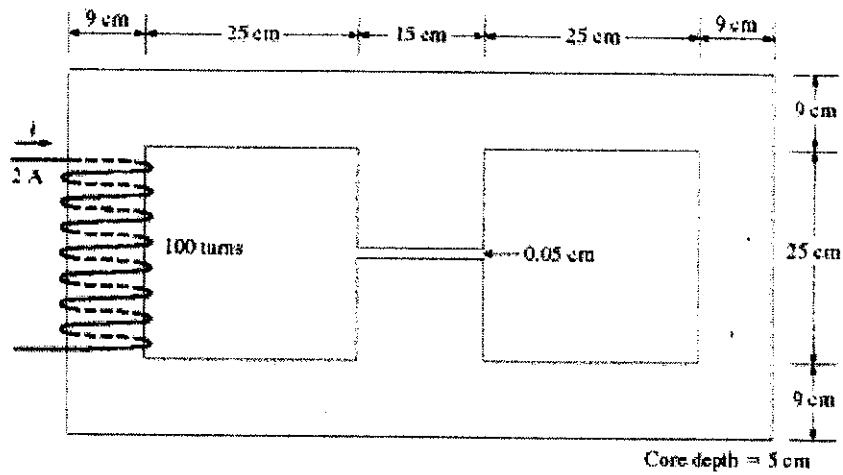

Figure Q1
- b) A core with three legs is shown in Figure Q1. Its depth is 5 cm, and there are 100 turns on the leftmost leg. The relative permeability of the core material is 2000. Assume 5% increase in the effective area of the air gap due to fringing effect. Take the permeability of air as $4\pi \times 10^{-7}$ H/m and assume core doesn't saturate.